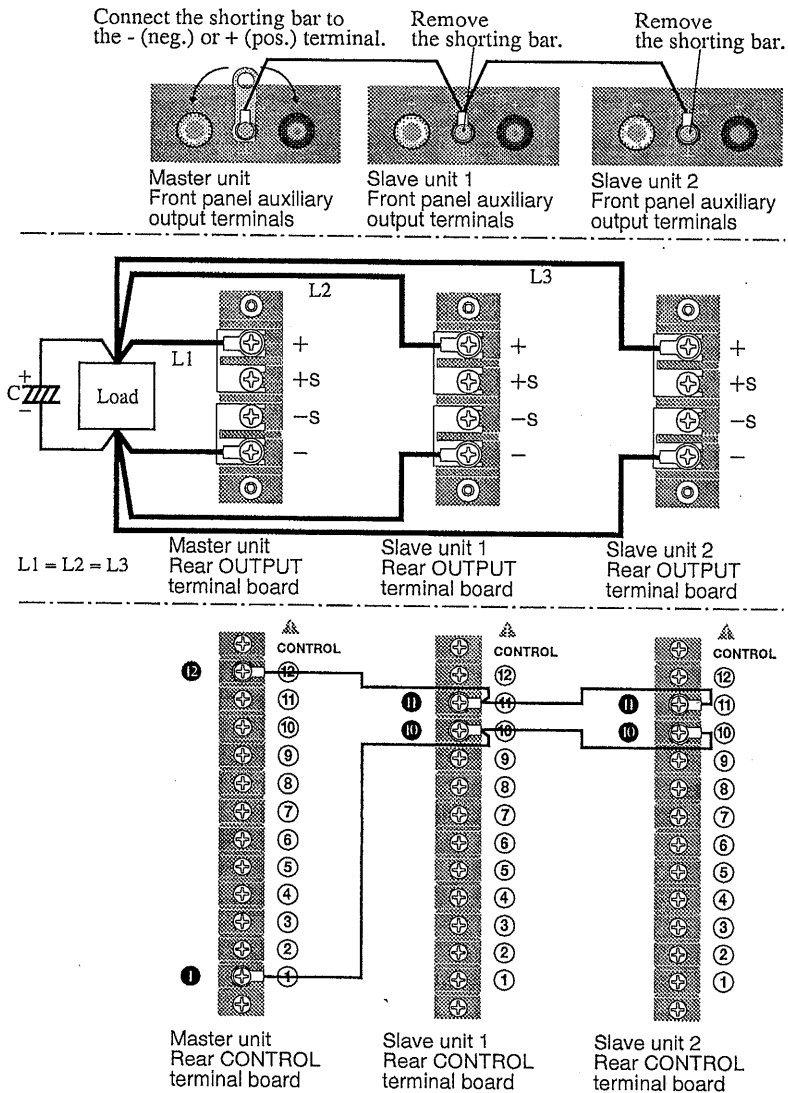

Fig. 3-9A Connection for master-slave-control parallel operation
- ⑤ Connect the master unit and slave unit as shown in Fig. 3-9A. Fig. 3-9A shows an example of how the rear output terminals are connected in parallel for two slave units
- The rear output terminal of the models shown on the left has a different shape from that of the unit shown in Fig. 3-9A. For information on load cable connection, see section 2.4 "Connecting load".
- ⑥ Connect an electrolytic capacitor (C) with a capacity of approximately 1,000 to 100,000  $\mu$  F to the load terminals as necessary.